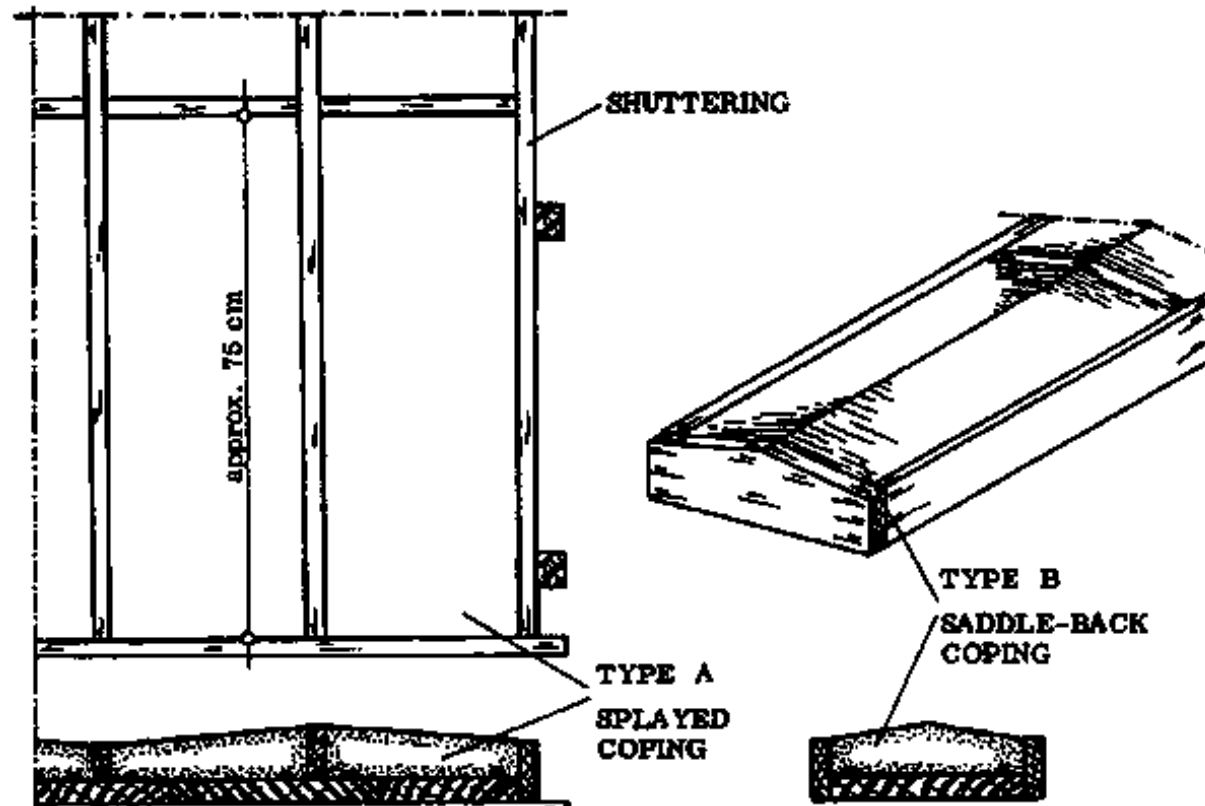

Fig. 2
- **CONCRETE COPINGS OR CAPPINGS:** These are of various shapes, with or without reinforcement (Fig. 2).